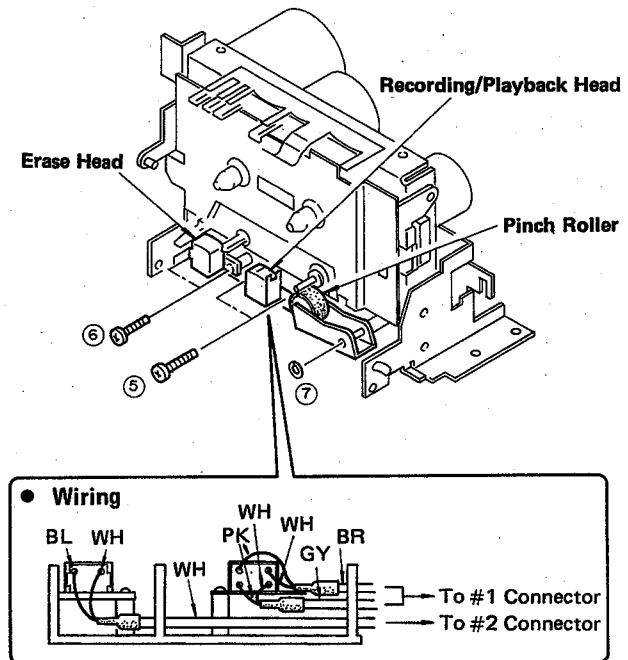

Fig. 3
- Remove 2 screws (⑤) in Fig. 3 and then remove the Recording/Playback Head.
- Remove 2 screws (⑥) in Fig. 3 and then remove the Erase Head.
- Remove Washer (⑦) in Fig. 3 and then remove the Pinch Roller.